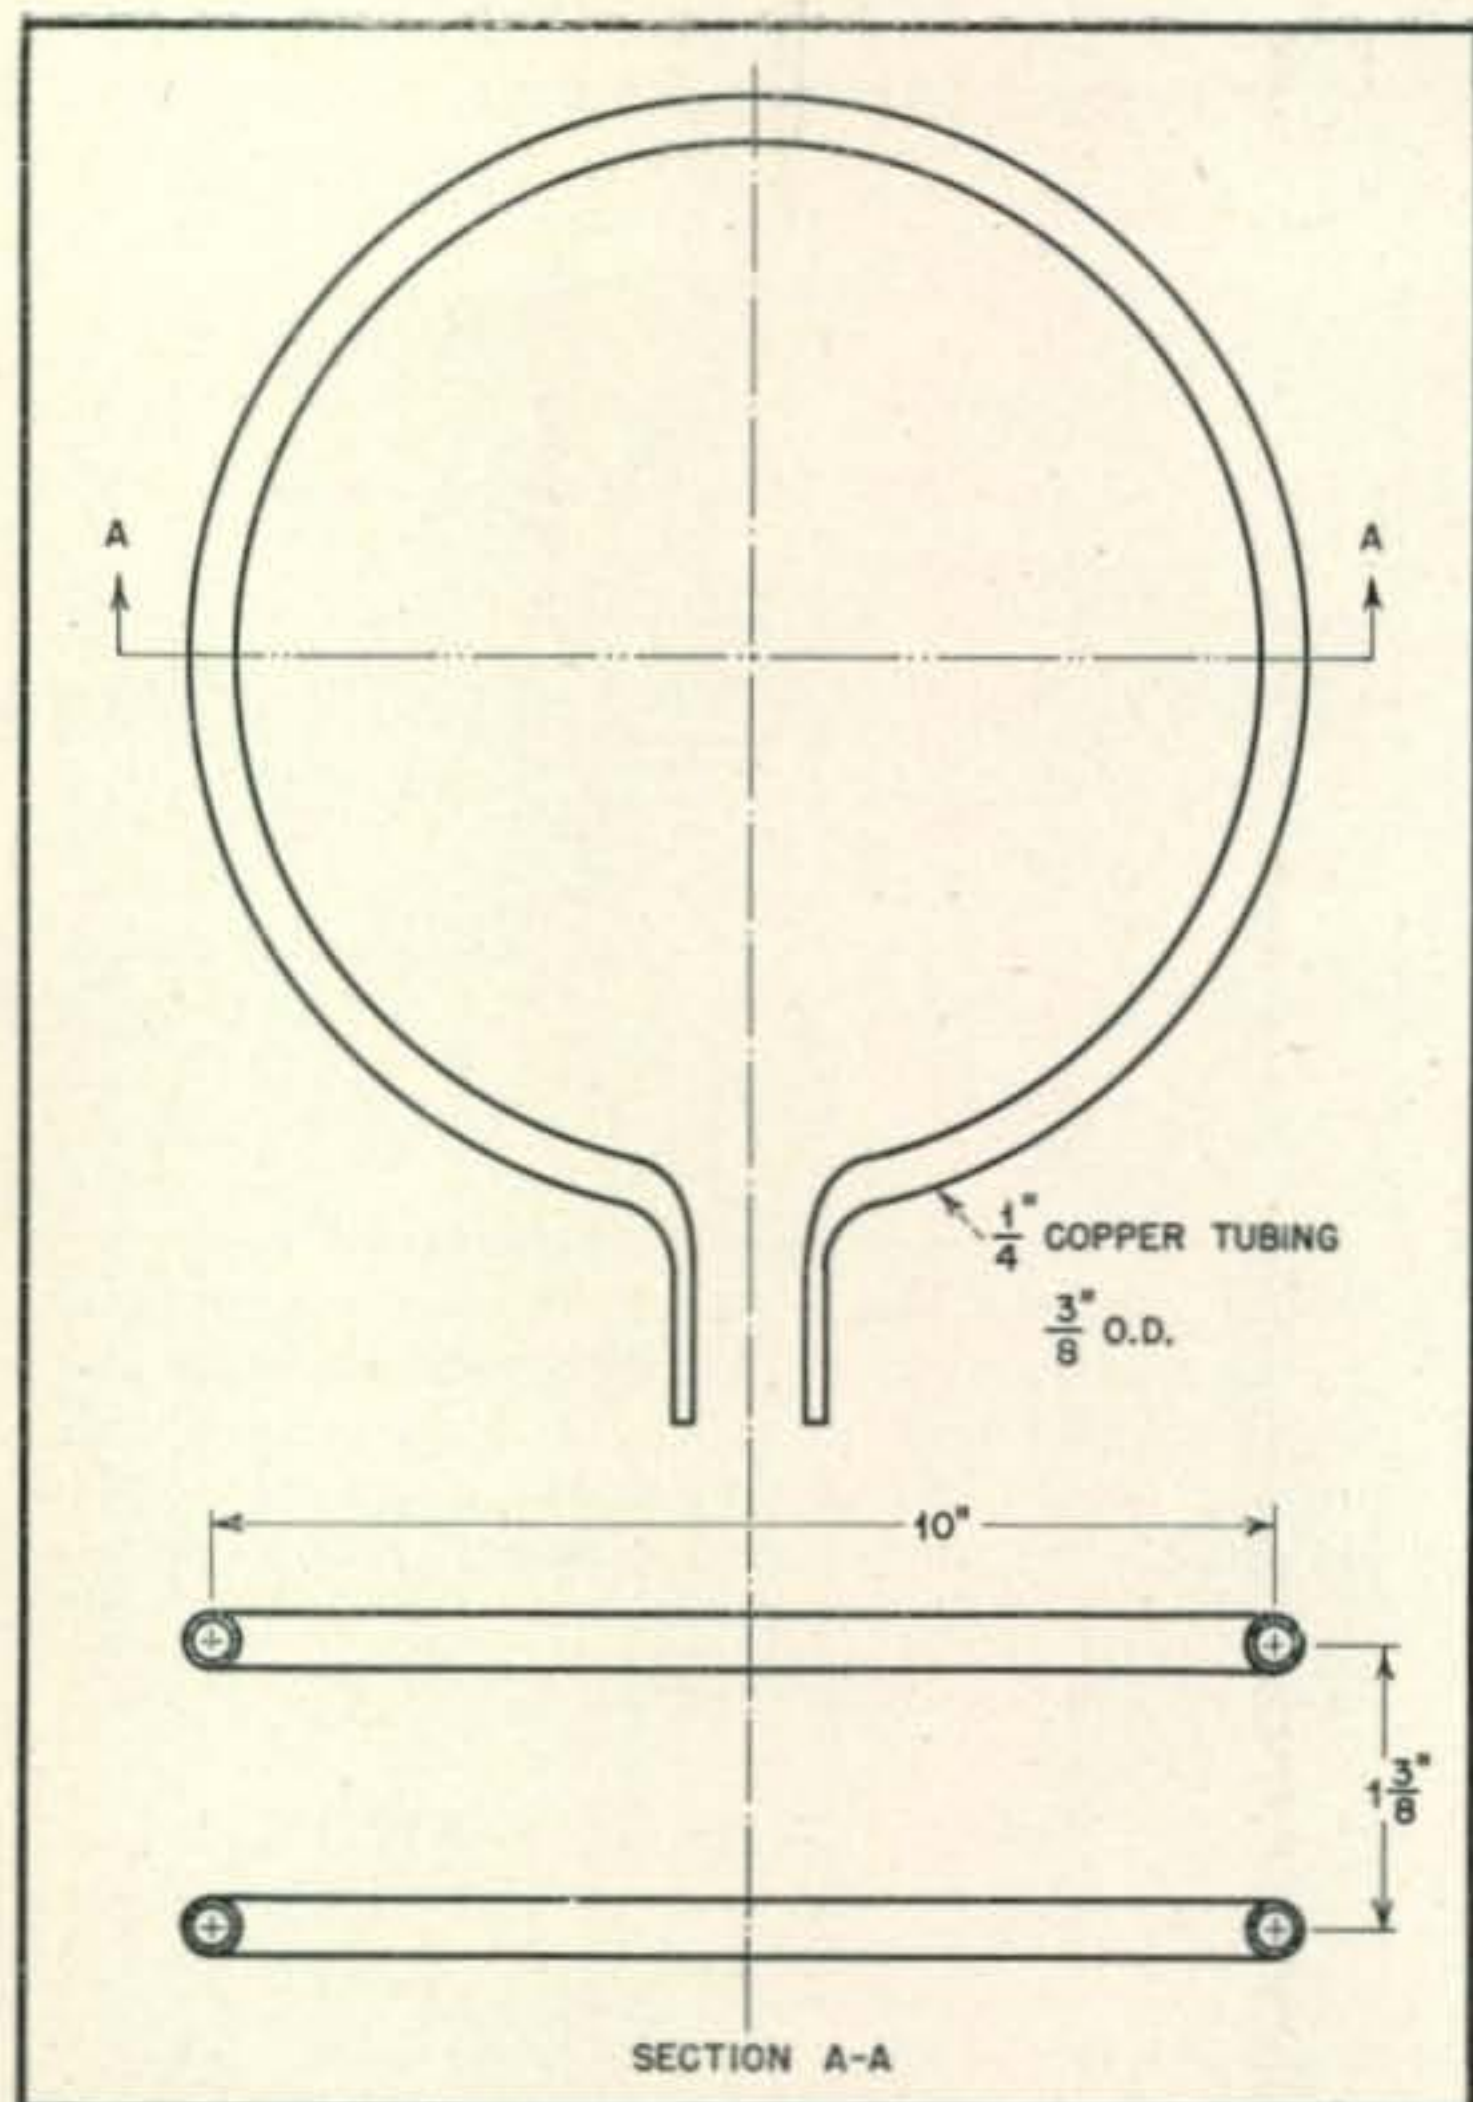
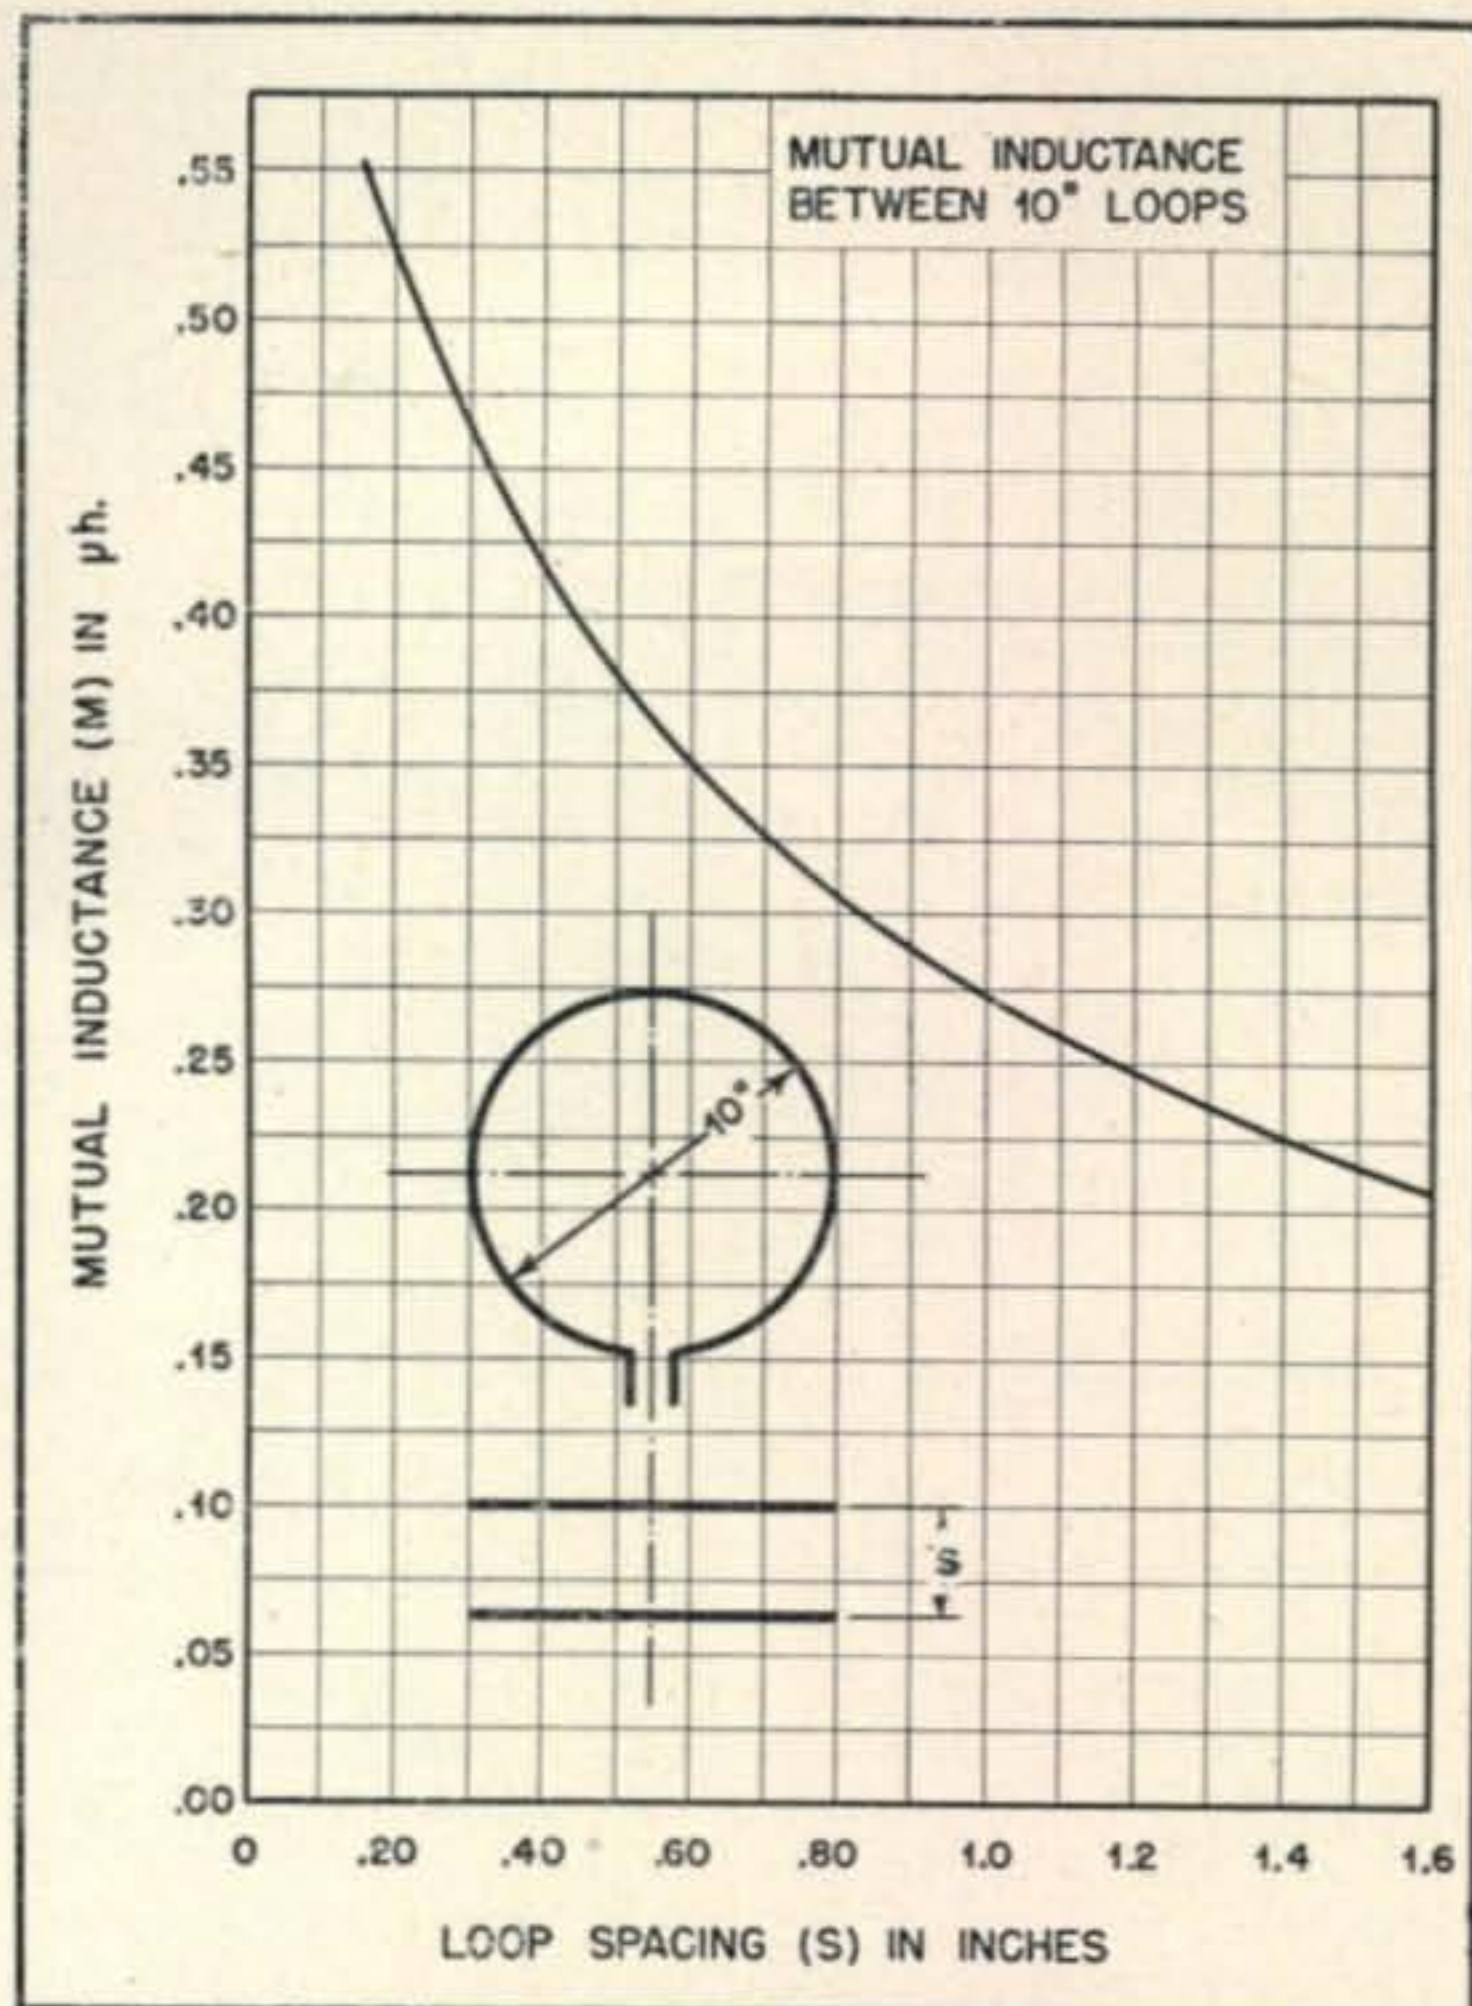

Fig. 3. Dimensions and construction of typical inductive loops.
Fig. 5. Variation in mutual inductance between 10'' loops with different loop spacing.
where  $L$  is the inductance in microhenries;  $a$  is the mean radius of the coil in inches; and  $d$  is the outside diameter, in inches, of the conductor from which the coil is fashioned. As an example, consider the loop system of Fig. 3, in which the loops are constructed from  $\frac{1}{4}$ " copper tubing (o.d. =  $\frac{3}{8}$ "). They have a mean loop diameter of 10" and are spaced  $1 \frac{3}{8}$ " between centers. Substituting these dimensions into equation (6):
To illustrate the accuracy of (6), the loop system of Fig. 3 was measured with an r-f impedance bridge at a frequency of 28.85 mc, and the following data were obtained:
Substituting the values of Fig. 3 into (8),
The calculated value of  $.226 \mu\text{h}$  is seen to be about 6% lower than the measured one of  $.240 \mu\text{h}$ . It is seen, however, that the self-inductance of the loops and the mutual inductance between them can be computed with sufficient accuracy for design purposes. The curve of Fig. 5 shows how the mutual inductance varies with loop spacing for the case of the 10'' loops shown in Fig. 3.
Suppose the 10'' loops of Fig. 3 (spaced  $1\text{-}3/8''$  apart) are to be used to feed a 4-element beam antenna; the primary impedance  $Z_p$  (i.e., the impedance across the primary loop terminals  $PP$  of Fig. 2) can be computed by means of equations (4) and (5). In this instance, the total resistance in the secondary loop circuit is that of the 4-element beam—namely, 6 ohms. The secondary loop circuit is assumed to be tuned to resonance, so we may write,